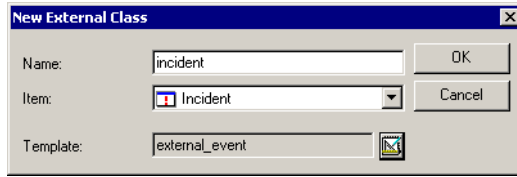

Figure 24: New External Class Window
- Enter **ovsam_event_windows** in the Name field and click the **Add** button to open the New External Class window as shown in Figure 24.